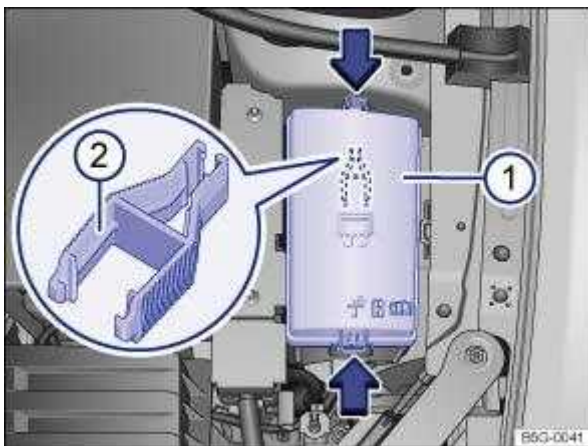

Fig. 172 In the engine compartment: cover ① of fuse box with plastic pliers ②.
☐ Press the release buttons in the direction of the arrow ⇒ Fig. 172 ① to release the fuse box cover.
In some vehicles, there is a pair of plastic pliers ⇒ Fig. 172 ② for removing fuses on the inside of the cover of the fuse box in the engine compartment.